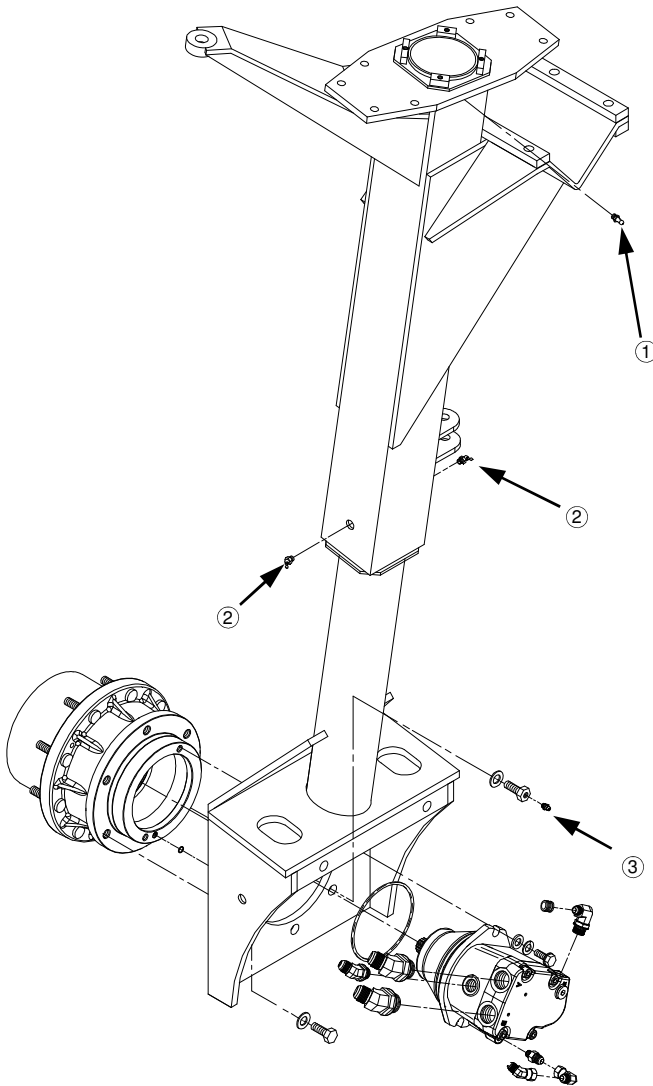

FIG 7.29
Hagie 204SP leg assemblies are constructed with upper and lower nylon bearings for suspension telescoping between the inner and outer leg weldments. These bearings must be lubricated to avoid bearing failure and ensure optimal ride quality. There are grease zerks located on the sides of the leg assemblies, one for the upper bearing (fig. 7.29, item 1) and two for the lower bearing (fig. 7.29, item 2). Greasing both bearings on both front and rear legs daily is very important.
Each leg has a seal boot located between the wheel motor and Torque Hub[®]. Seal boot grease zerks (fig. 7.29, item 3) should be greased once every 50 hours or as needed. An over-greased seal boot will leak some grease out around the seal and when heated may cause the appearance of a failed wheel motor leaking hydraulic fluid. Wipe off any excess grease after servicing.